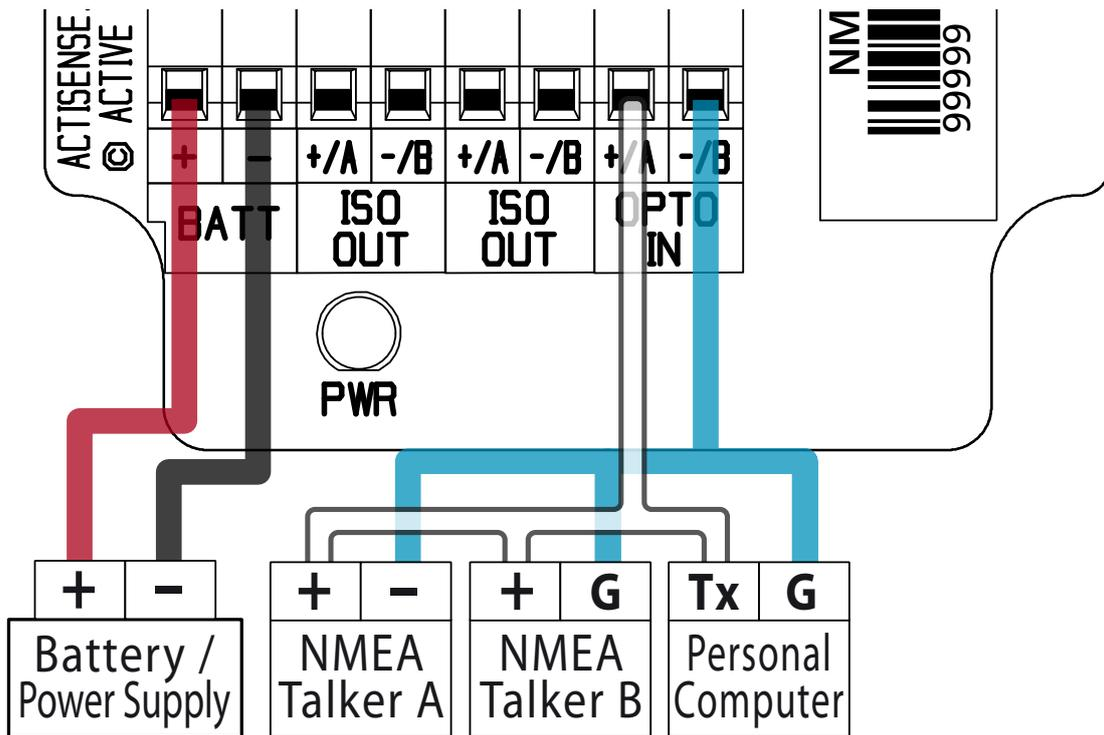

Figure 2 – Input connections
The diagram (figure 2) above shows a typical installation with both fully compliant NMEA devices with differential outputs, and non-differential devices that output NMEA using the ground line as the “NMEA -” line.
**NMEA Talker device A:** This device conforms in full to the NMEA 0183 standard and shares the same connection ID’s as the **Actisense** NBF, so connection is a simple matter of matching ID’s (refer to figure 2).